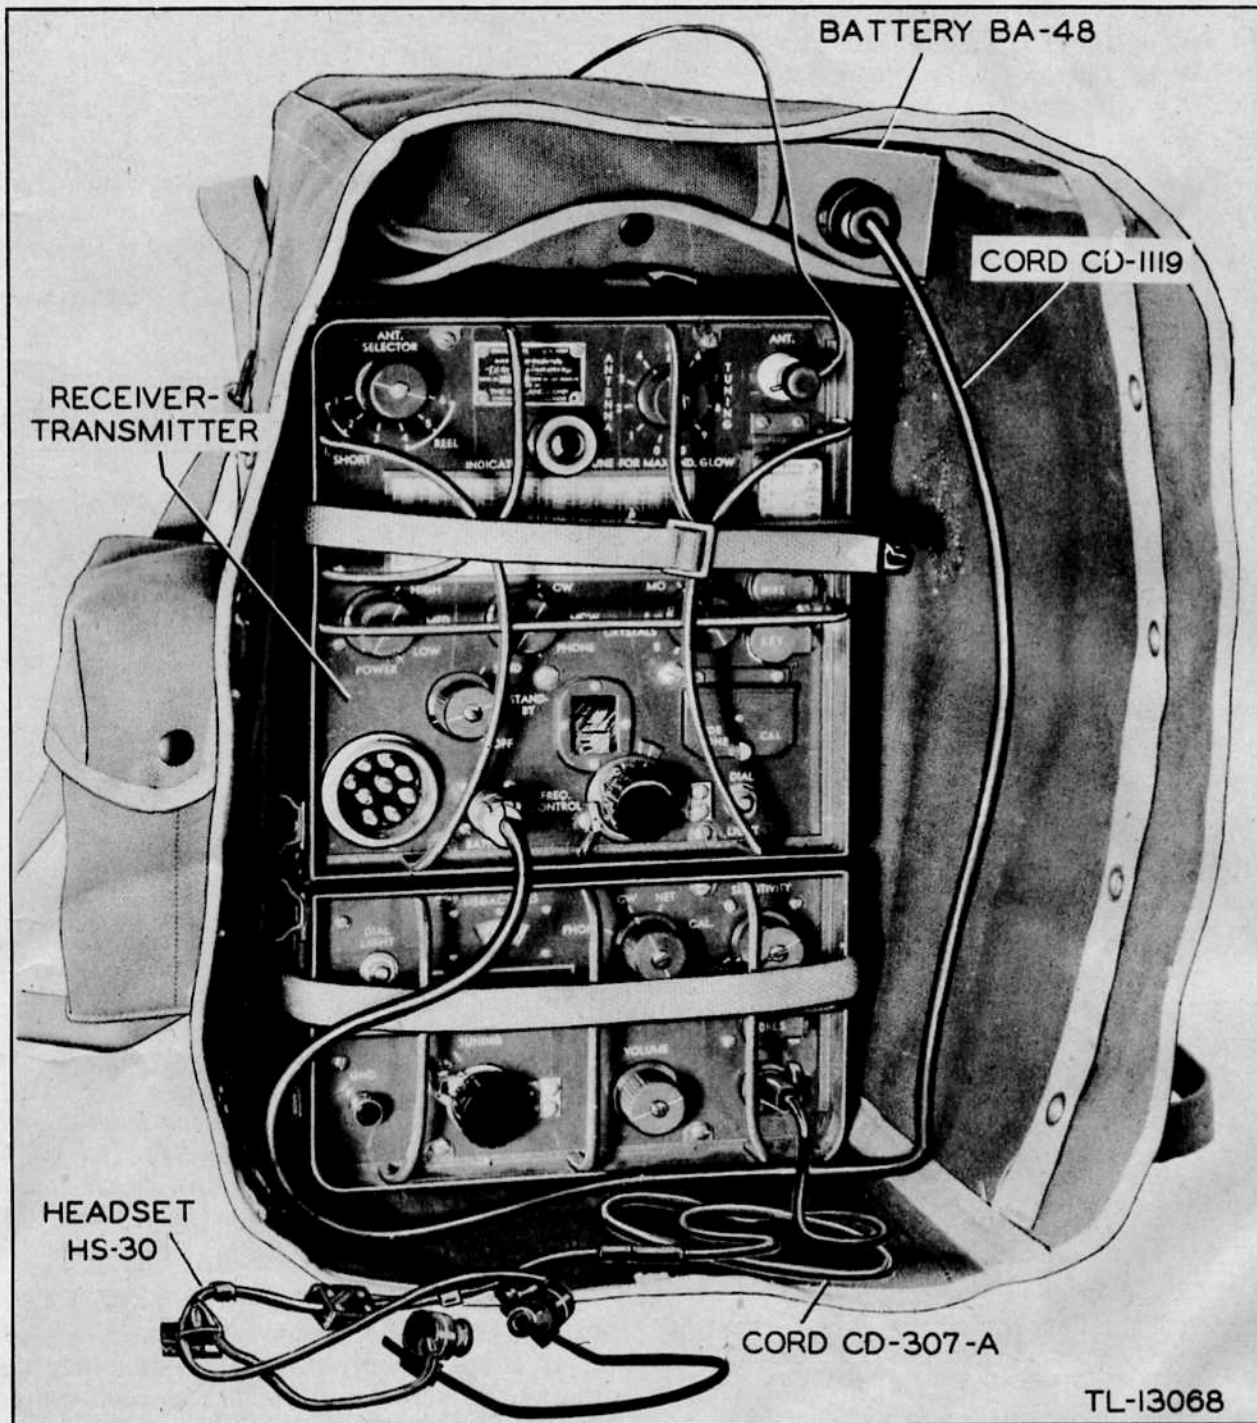

Figure 16. Receiver and transmitter and accessories.
*a.* Take the receiver-transmitter out of its canvas cover and remove Panel Cover M-404. Slip the cover on the back of the set and re-install in the bag, leaving the front flaps open to allow operation of the controls and entrance of the cables (fig. 16).